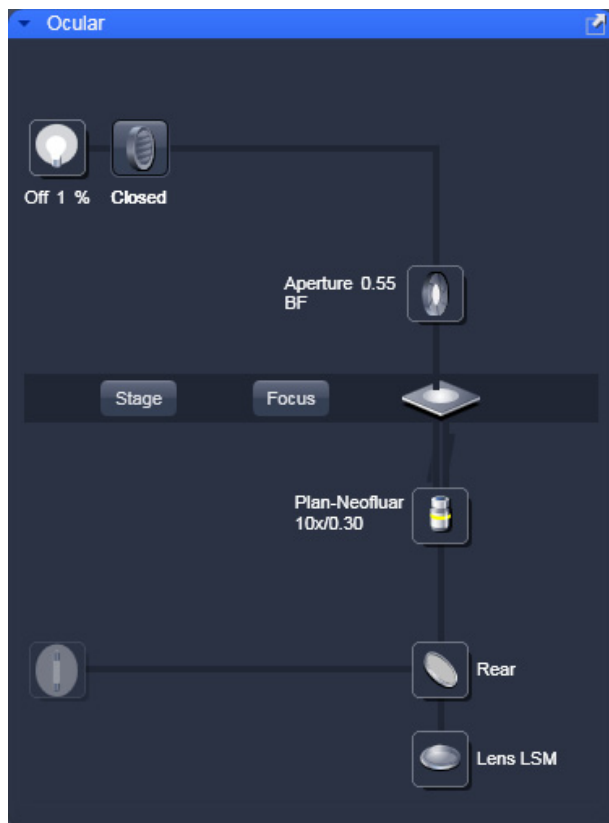

Fig. 119 Light Path - Ocular tab
- Choose in the LSM **Light Path** the register **Ocular** (Fig. 119)